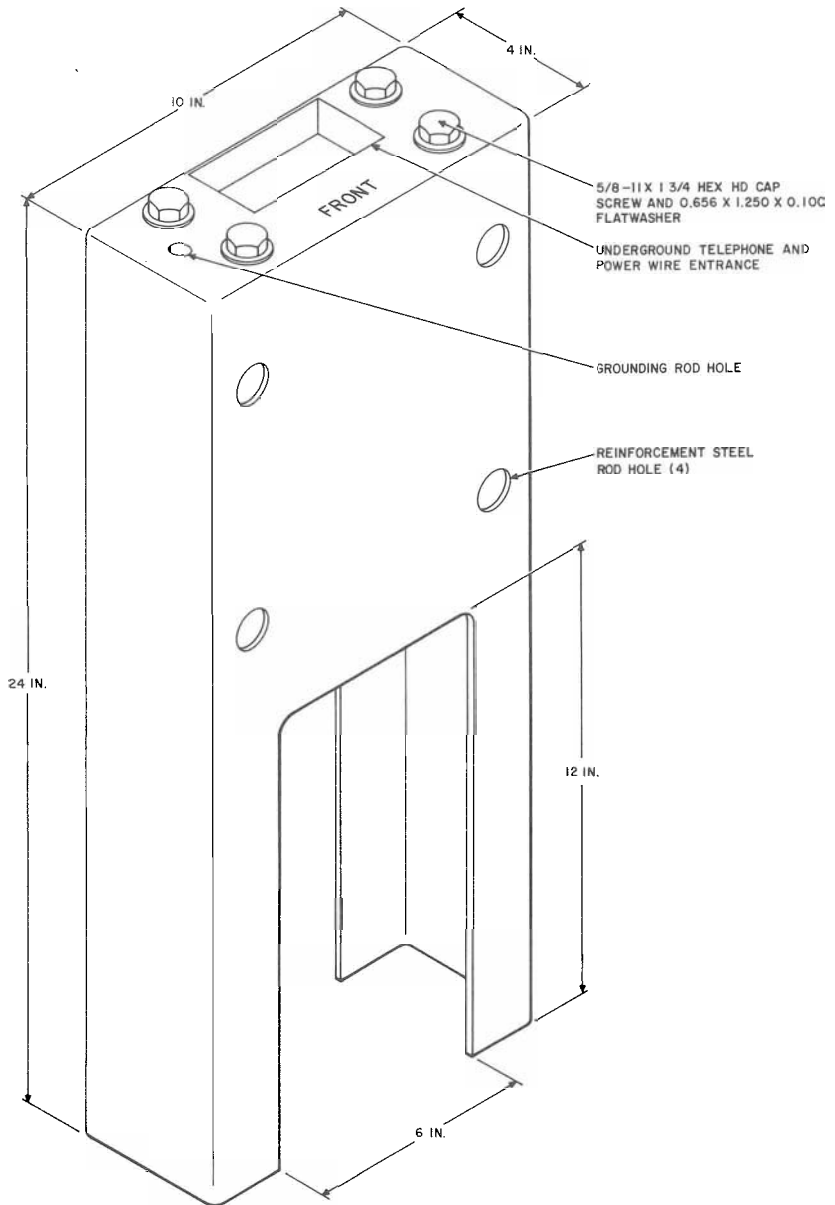

Fig. 3—KS-20842, List 52 Buried Base
**2.12** *List 52 buried base* (Fig. 3) is 10 inches wide, 4 inches deep, and 24 inches long. The base is normally embedded full length in concrete with the top flush with the surface. The base top provides four threaded holes for use when mounting the post. Holes are provided through the base for four reinforcement rods which add strength and stability when installed.